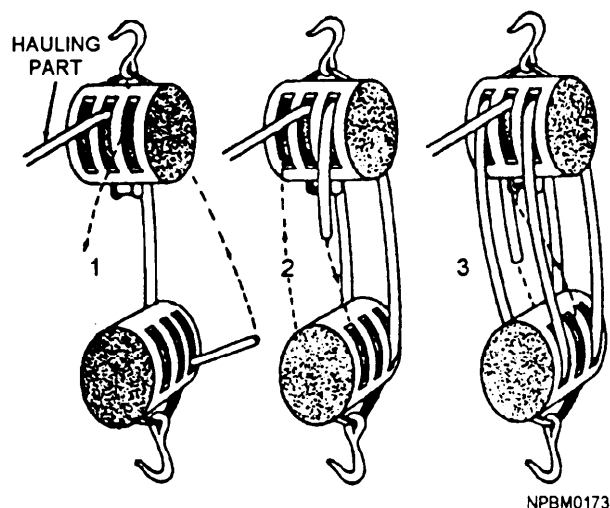

Figure 8-9.—Reeving a threefold purchase.
- **THREEFOLD PURCHASE:** The right-angle method of reeving a threefold purchase is shown in figure 8-9. This method of reeving is